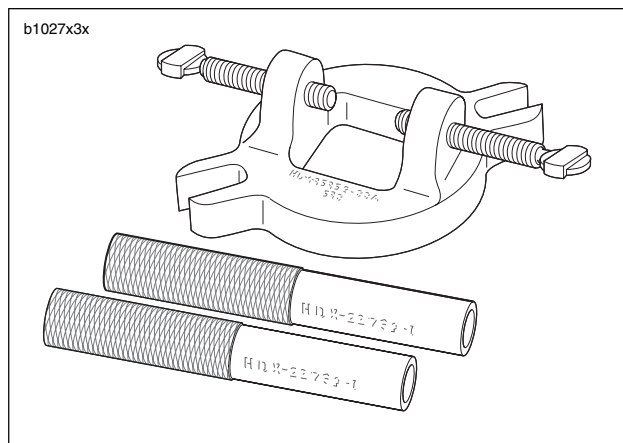

Figure 3-80. Connecting Rod Clamping Tool (Part No. HD-95952-33B)
1. See Figure 3-80. Secure connecting rod with CONNECTING ROD CLAMPING TOOL (Part No. HD-95952-33B).